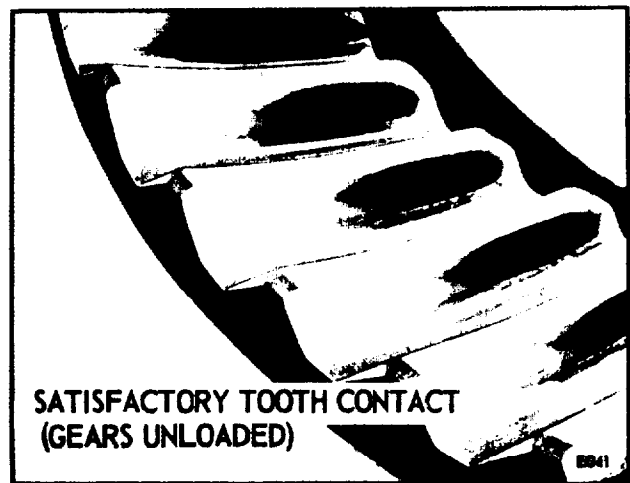

FIGURE 8-44.
- a. Figures 8-44 and 8-45 show correct tooth contact.